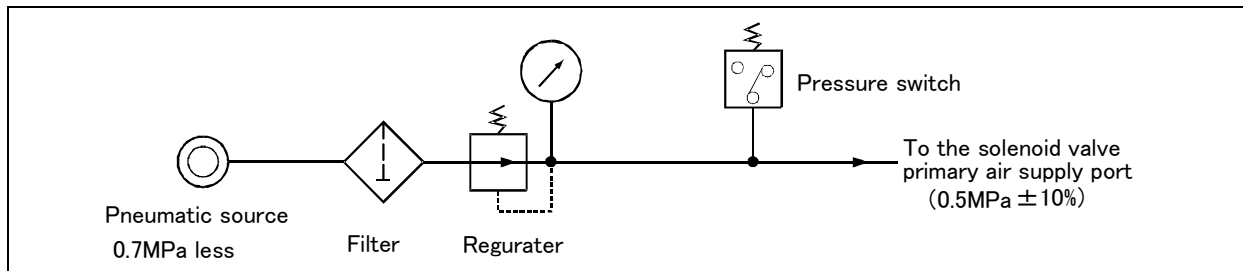

Fig.2-17 : Air supply circuit example for the hand
Fig. 2-17 shows an example of pneumatic supply circuitry for the hand.
- (1) Place diodes parallel to the solenoid coil.
- (2) When the factory pneumatic pressure drops, as a result of the hand clamp strength weakening, there can be damage to the work. To prevent it, install a pressure switch to the source of the air as shown in Fig. 2-17 and use the circuit described so that the robot stops when pressure drops. Use a hand with a spring-pressure clamp, or a mechanical lock-type hand, that can be used in cases where the pressure switch becomes damaged.
- (3) The optional hand and solenoid valve are of an oilless type. If they are used, don't use any lubricator.
- (4) Supply clean air to the vacuum generation valve when you use clean type robot.